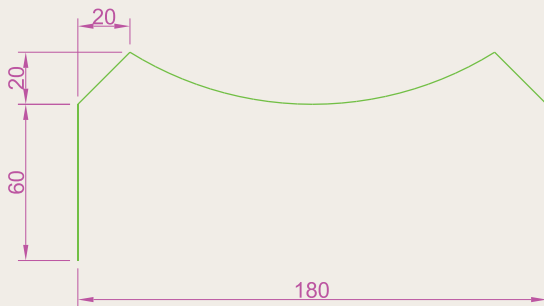
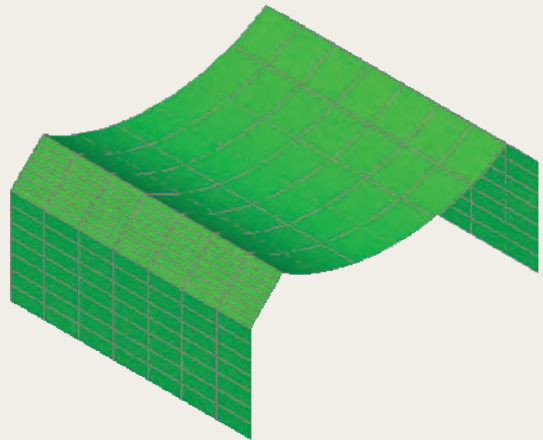

Fig. 14.52 Exercise 6 – outline to be extruded
Fig. 14.53 Exercise 6
6. In the **Right** view construct the lines and arc shown in Fig. 14.52 on a layer colour **green**. Extrude the lines and arc to a height of **180**, place in the **Isometric** view and in the shade style **Visual Styles/Realistic** (Fig. 14.53).